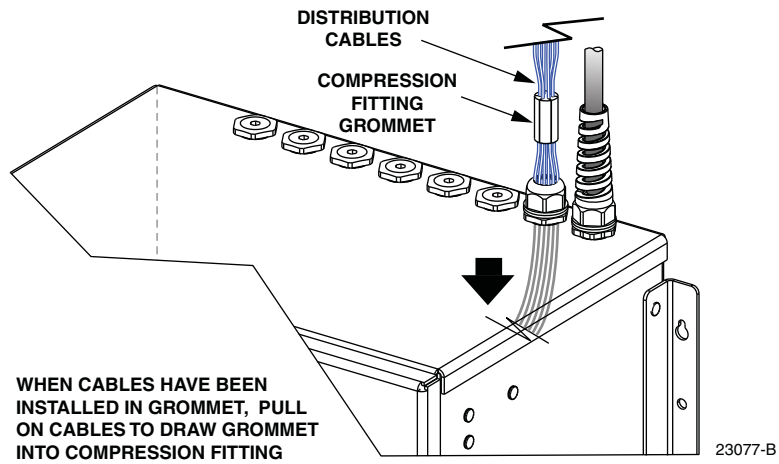

Figure 47. Install Distribution Cables in Grommet
8. Install each distribution cable in the compression fitting grommet as shown in Figure 47.